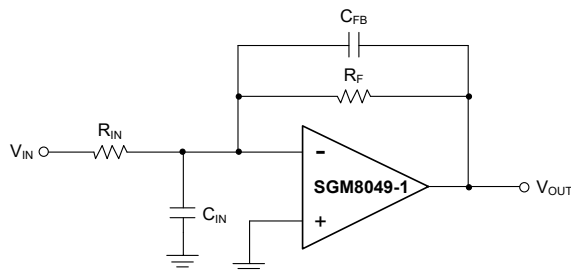

**Figure 3. Series Resistor in Unity-Gain Buffer Configuration Improves Capacitive Load Drive**
Follow configurations with load capacitance in excess of 30pF can produce extra overshoot and ringing in the output signal. Increasing the gain enhances the ability of the amplifier to drive greater capacitive loads. In unity-gain configurations, capacitive load drive can be improved by inserting a small (10 $\Omega$  to 20 $\Omega$ ) resistor,  $R_S$ , in series with the output, as shown in Figure 3. This resistor significantly reduces ringing while maintaining direct current (DC) performance for purely capacitive loads. However, if there is a resistive load in parallel with the capacitive load, a voltage divider is created, introducing a DC error at the output and slightly reducing the output swing. The error introduced is proportional to the ratio  $R_S/R_L$ , and is generally negligible.